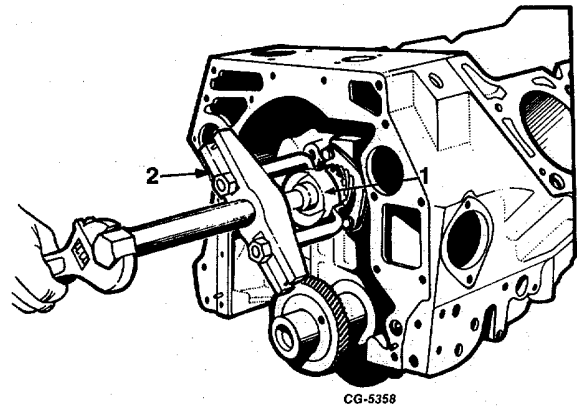

Fig. 65
c. Remove fuel pump cam using SE-1368 Puller and SE-1368-3Fingers, Figure 65.